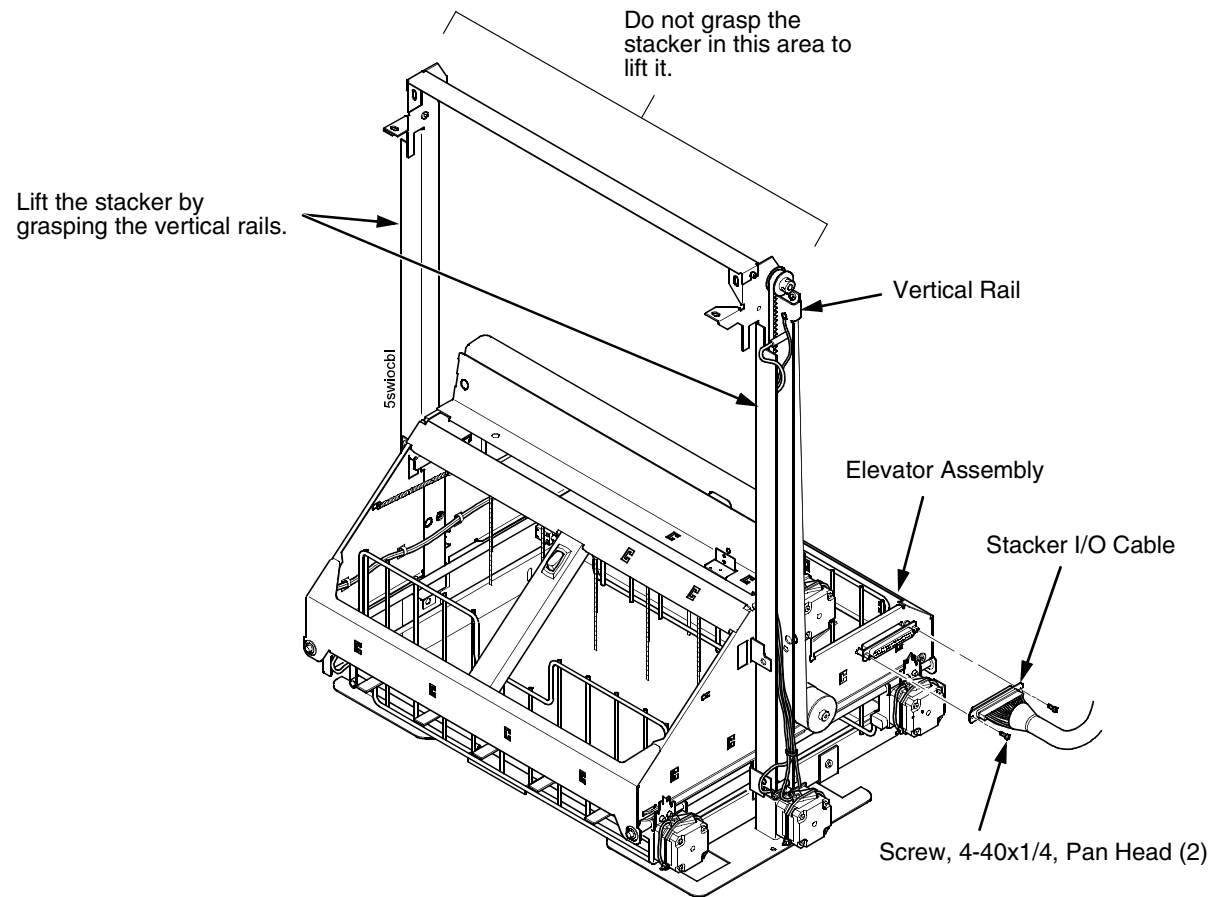

Figure 73. This figure shows where to connect the stacker I/O cable to the stacker elevator.
12. Position the elevator assembly at the bottom of the vertical rails. (Figure 73.)
13. Connect the elevator I/O cable to the elevator assembly and install the two 4-40 x 1/4 inch screws, as shown in Figure 73.